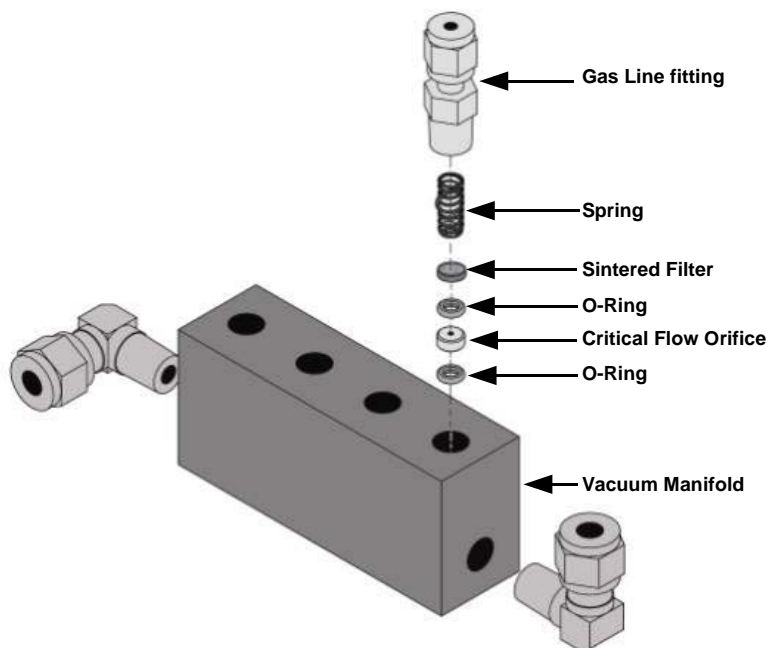

Figure 11-2: Critical Flow Orifice Assembly
2. Locate the critical flow orifice on the pressure sensor assembly (called out in Figure 11-2).
9. Re-assemble the parts as shown in Figure 11-2 using a new filter and o-rings.